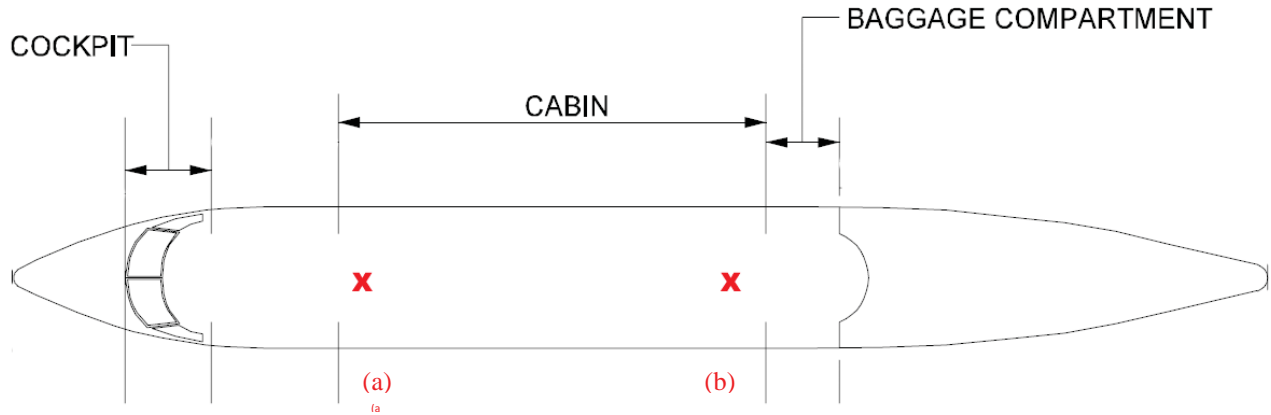

Figure 101 - GII / GIIB / GIII Canister Locations
- (1) Empty galley compartments and remove all loose equipment, foodstuffs from the aircraft.
- (2) Remove carpet and place protective covering over seats and conference table if equipped.
- (3) Open all storage areas, electronic equipment doors, pressure bulkhead/baggage, closets and lavatory doors.
- (4) If required starting at the entry way floor remove alternating floor boards down the center of the aircraft to include the below floor area in the fumigation.
- (5) Close external baggage door.
- (6) For GII, GII B, and GIII aircraft perform Step 1.0 B(7) for GIV and GV aircraft proceed to Step 1.0 B(8).
- (7) Place 2 canisters of the disinsectant throughout the aircraft as follows. (reference figure 101). The aerosol shall be directed up in the aisle ways.